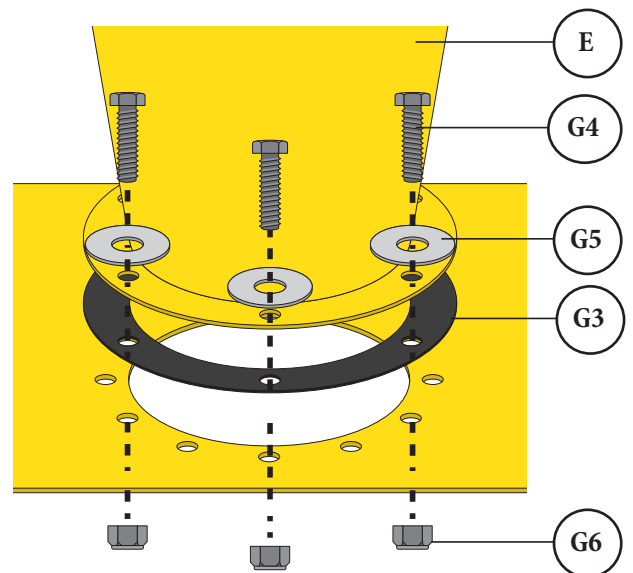

FIG. 15
- 13** Place the Flange Gasket (G3) and the Cyclone (E) onto the Wall Bracket (F) and align the hole patterns on all three items. Secure together using six Hex Head Bolts (G4), six Flat Washers (G5), and six Nylock Nuts (G6) [FIG. 15].